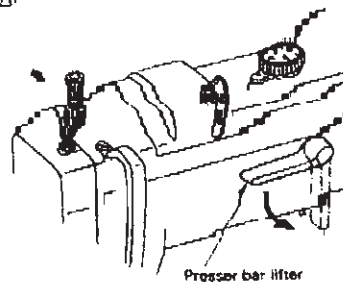

Fig.28
28. Presser bar lifter (Fig.28):